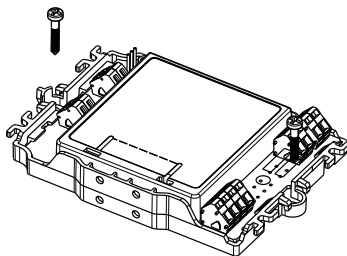

Fig. 4.6.1
- Installation directly in a switching cabinet or a control unit: mount the module on an even surface (Fig. 4.6.1) .
2. Fix it with two M4 screws (Fig. 4.6.1). Distance between installation holes: $118.0 \pm 1.0\text{mm}$